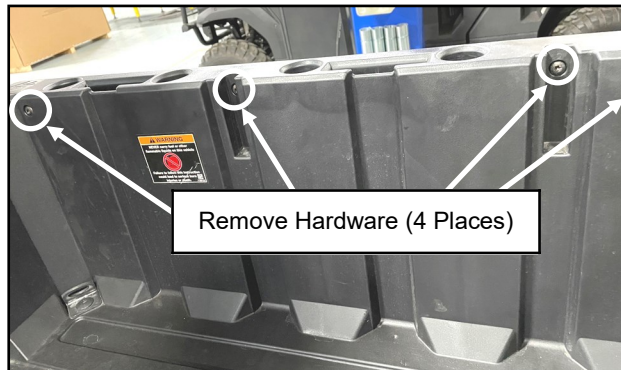

Fig. 7; Remove Left Tail Light
7. Using a T30 Torx bit, remove the (4) screws on the inside of the left and right side of the bed. When removing the screws, the side panels will fall off the bed of the body. Hold the side panels when removing the screws. See Fig. 7.